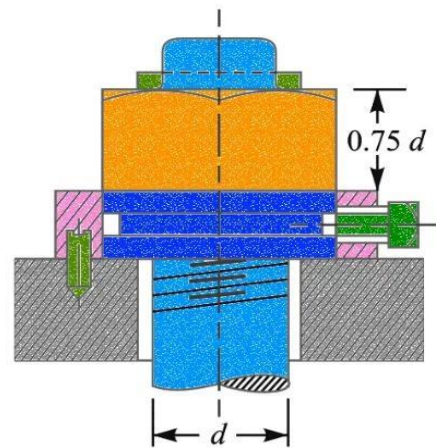

Fig. 3.3: Grooved Nut
- Grooved Nut is largely used where bolts pass through connected pieces reasonably near their edges such as in marine type connecting rod ends (Fig. 3.3).